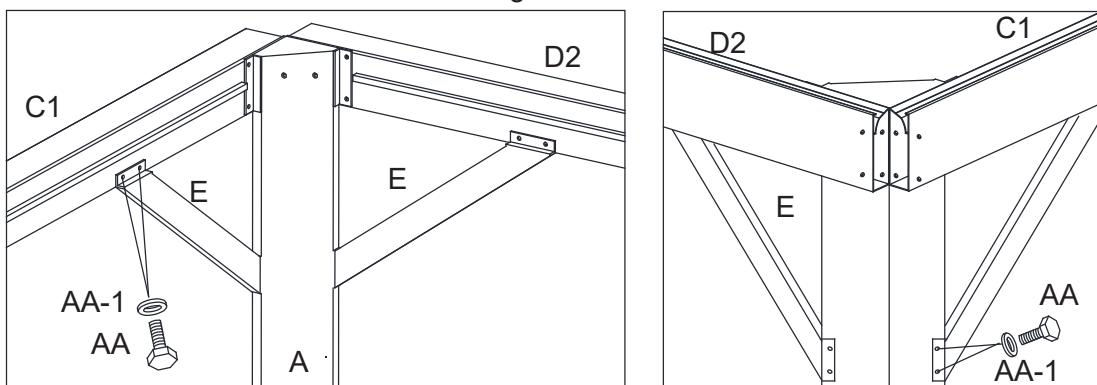

Figure 5-2
- 5.2. Attach Support Bars (E) to Corner Post (A) and to Lintels (C1/C2) with Bolts (AA) and washer (AA-1). See Figure 5-2.